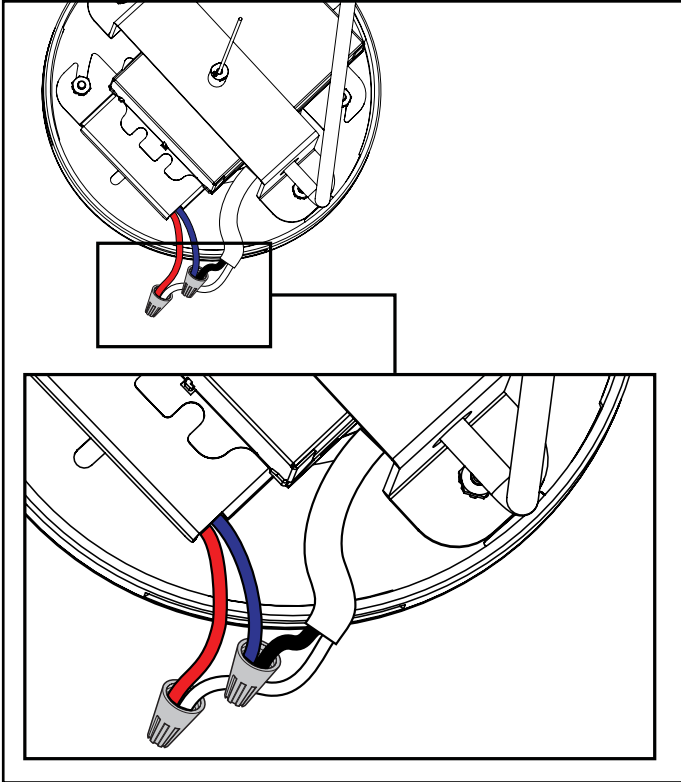

Figure 23
11. Connect the low voltage LED power cord as shown in the wiring diagram on page 3 and Figure 23.